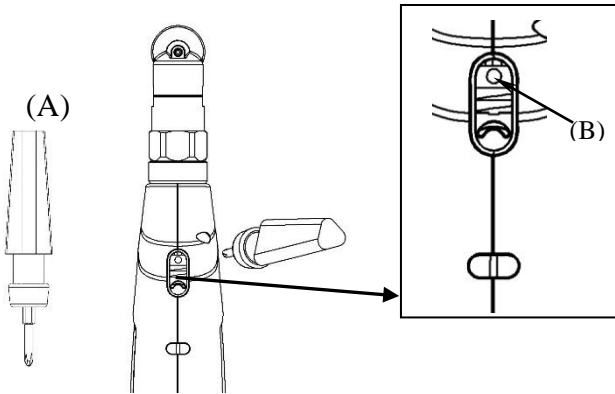

Fig.3
2. Insert the provided screwdriver (A) into the hole (B) (see Fig.3).